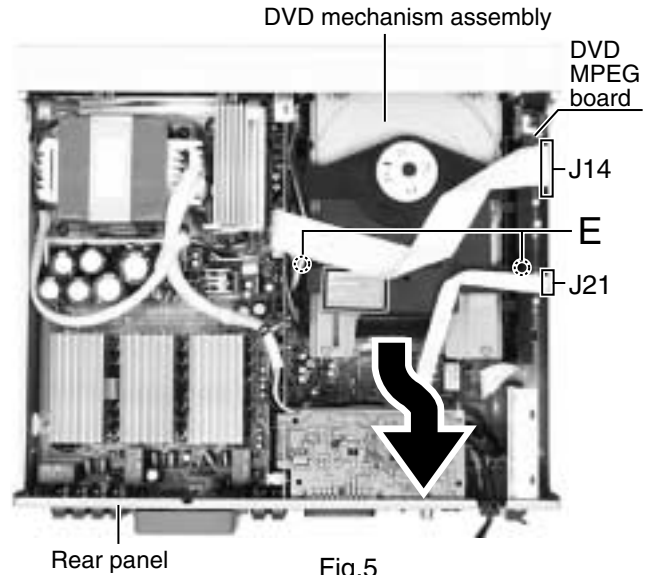

Fig.5
■ Removing the DVD mechanism assembly (See Fig.5 and 6)